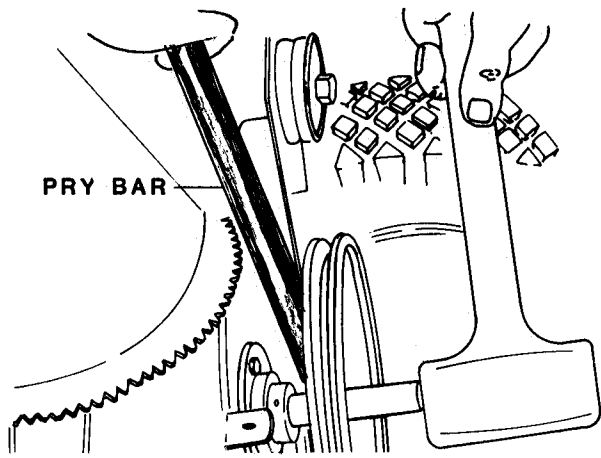

FIGURE 3.9 — BUMPING SHAFT TO REMOVE PULLEY
STEP 2. Count the number of washers used as spacers between the drive plate blower belt sheave (use same number when re-installing). Loosen the two setscrews on the sheave collar. Place a crow bar behind the sheave as shown in figure 3.9 and bump the end of the impeller shaft, then slide the sheave off the shaft. Remove the woodruff key from the slot in the impeller shaft. With file or emery cloth, remove burrs or marks from impeller shaft as housing bearing has close fit.